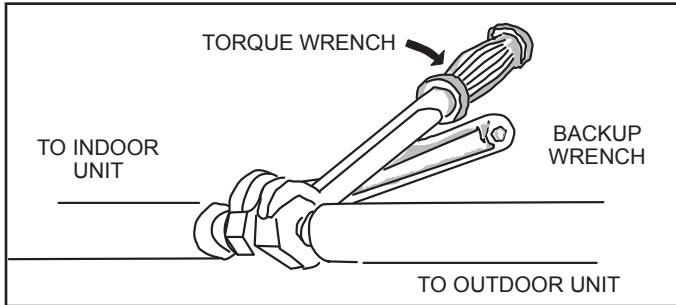

Figure 6. Tighten Flare Nut
7. Once snug, continue another half-turn on each nut which should create a leak-free joint. A torque wrench may be used to tighten flare nuts using Table 2 recommendations. See Figure 6. Do not over-tighten a flared joint.
- Immediately align the connector pipe with the identified piping in Figure 34. Hand-tighten the flare nuts at first. Then, use two wrenches to continue to tighten the nuts without twisting the pipes. See Figure 6. Torque requirements are given in Table 2. **Again, do not over-tighten the flared joints.**